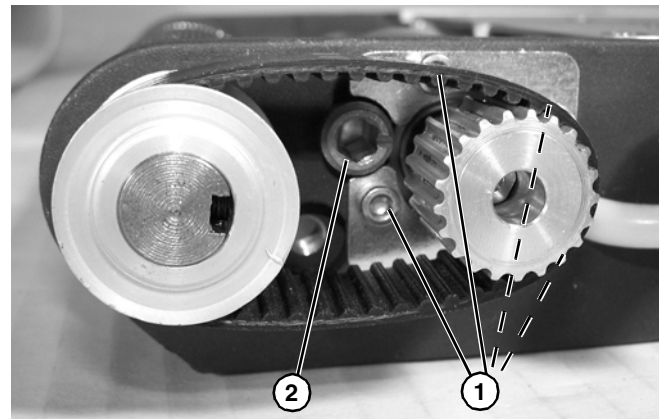

Figure 76
5. Loosen four clamp plate screws (Figure 76, item 1).
6. Loosen timing belt tension cam (Figure 76, item 2).